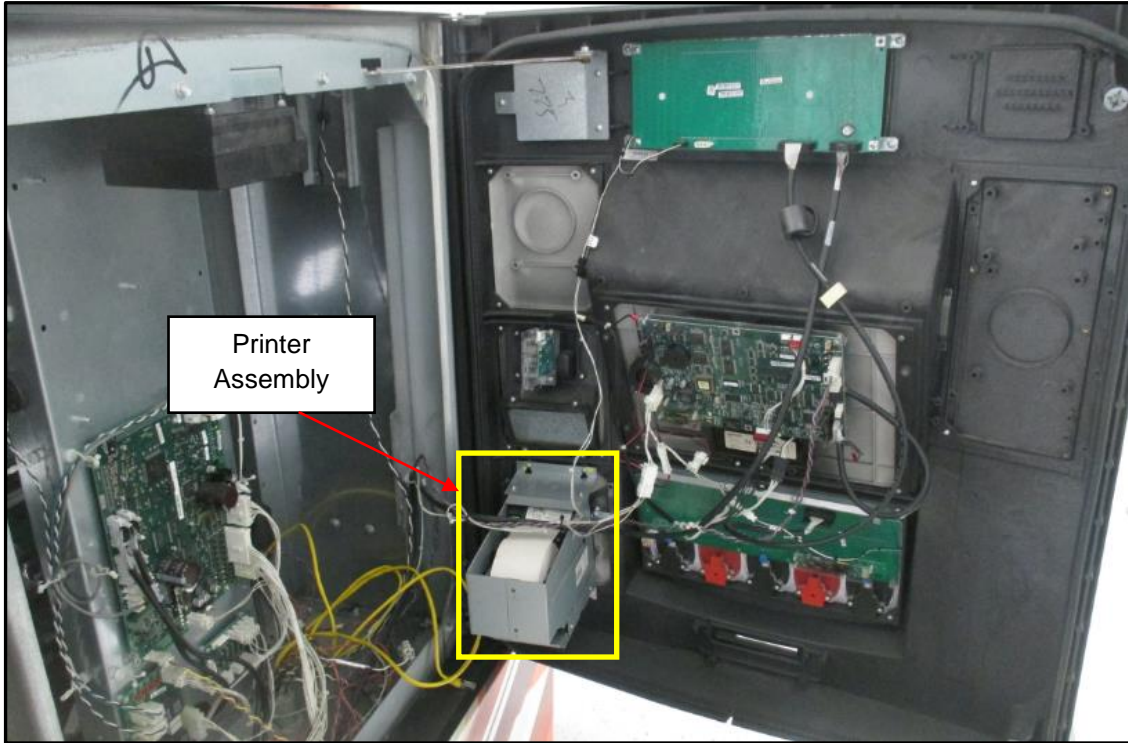

Fig 2 – Door in its fully open and locked position
5. Open the door fully until it locks into place. (Fig 2)